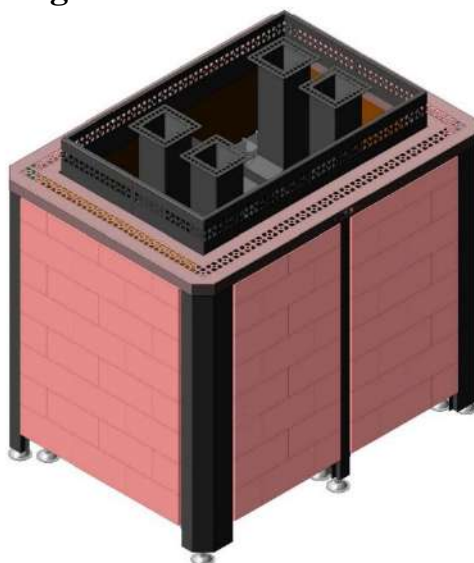

Fig. 2 Assembly of the electric heating device "Premiera Profi" "Himalayan salt"
1. Install the stove load-bearing frame on a flat base (Fig. 2)